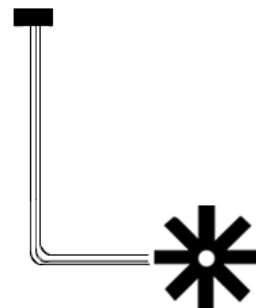
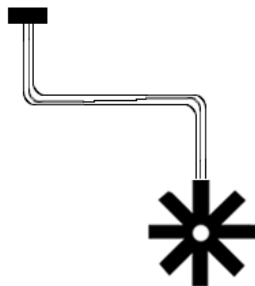
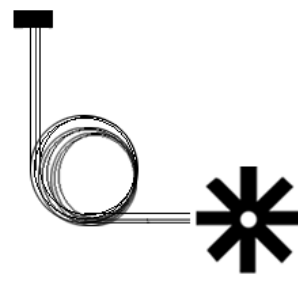

Fig. 2
Fig. 3
Fig. 4
- The maze comes with 12 feet of cable for each arm. At this point, it is important to determine if 12 feet is long. The figures below show the most common methods of connecting the control box to the maze and managing the cabling. **Figure 1** shows a straight connection between the control box and the maze (typical for 12 feet). This is the best possible and most reliable connection scheme. **Figure 2** shows a single turn connection, but it is still the most reliable way to deal with long cabling. The turning radius of the cable in this scheme should not be less than 2 feet. **Figure 3** shows a multiple turn connection between the control box and maze. This layout, while it might work sometimes, is not very reliable and should be avoided. The more turns you have, the less reliable the system becomes. Once again, the turning radius of the cables should not be less than 2 feet. **Figure 4 does not work at all!!!** Looping the cables will not allow the cables inside the cable housing to move at all. Needless to say, avoid this configuration. If you have placed the control box at the most convenient location and find that there is not enough cable Please contact LIC for a cable extension.